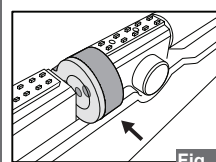

Fig. 8a
- 3) With the transparent cover of the magazine facing to the back of the air rifle, insert the magazine from the right side and push it left until it snaps into place. (Fig. 8a)